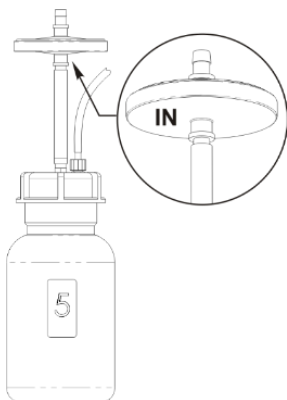

Figure 14. Filter mount
9.3 Filter replacement (figure 14).
Caution! Maintain the mounting of the filter according to figure 14. The **IN** marking should be located on the side of the inlet tube (facing the bottle).